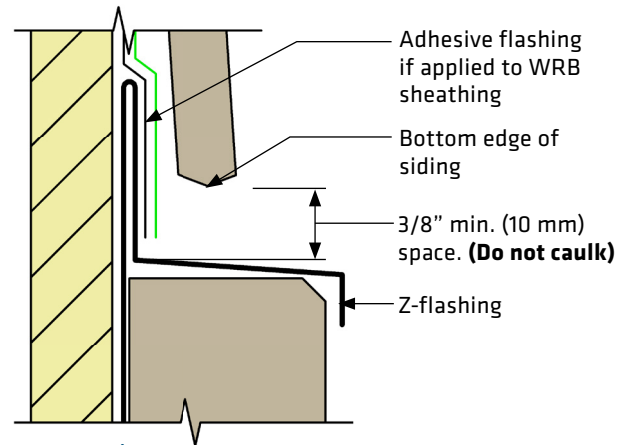

Figure 3b
- Maintain a min. 3/8 inch (10 mm) space between Z-flashing and bottom edge of siding. (Figure 3b)